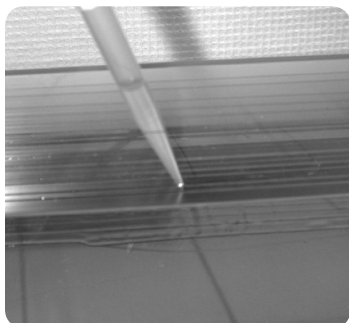

Fig 16. Applying overlay.
- 5 Overlay each gel with a thin layer of water-saturated *n*-butanol or diluted gel buffer to get the best surface on the top of the gel. *Slowly* apply the overlay near the gel surface from one side, taking care to prevent mixing. Allow the overlay to flow across the surface unaided (Fig 16).